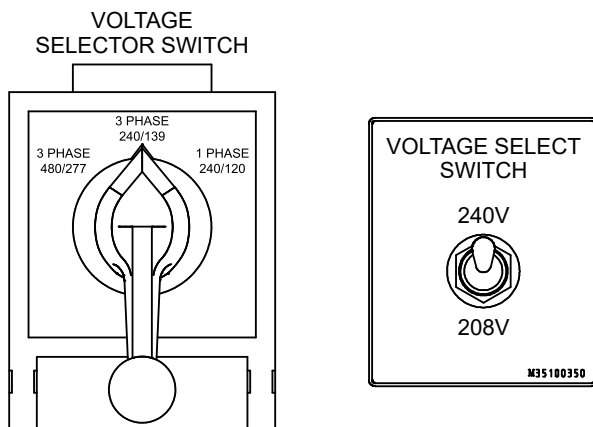

Figure 37. Voltage Switches
2. Make sure the **Voltage Selector switch** (Figure 37) has been configured for the desired output voltage.
- For 240/139-volt output, place the **Voltage Select switch** (Figure 37) in the **240-volt** position.